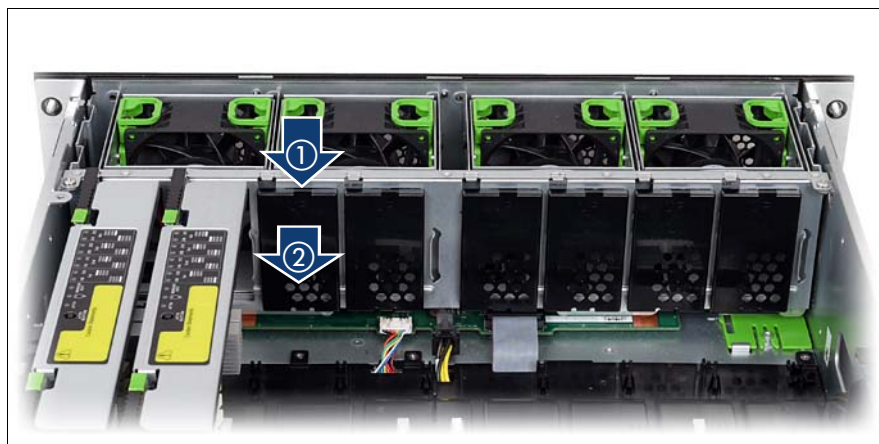

Figure 33: Removing the memory air baffle to add a memory board
- Plug the memory board in such a way into the respective slot that it will be guided within the guiding rails on both sides. Move the memory board as far as it will go into its slot (1).
- ▶ Carefully press the memory board into its slot (see figure 33 on page 114).
- ▶ Press both handles downwards (2) so that both green release tabs engage.